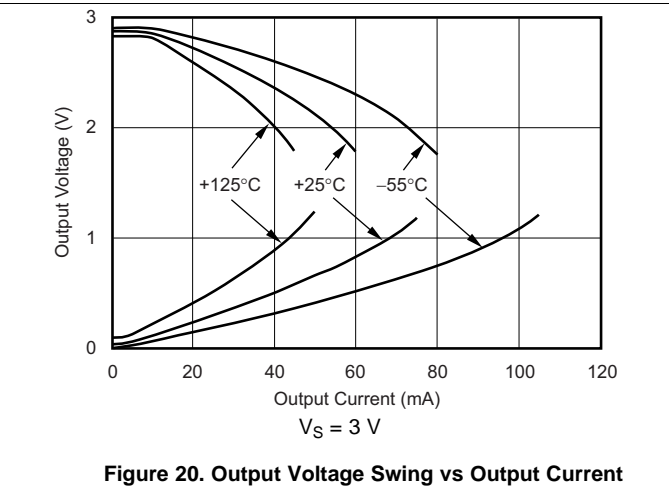
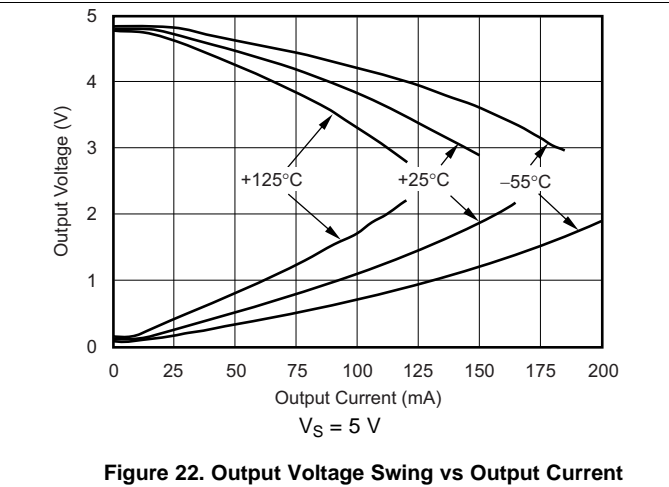
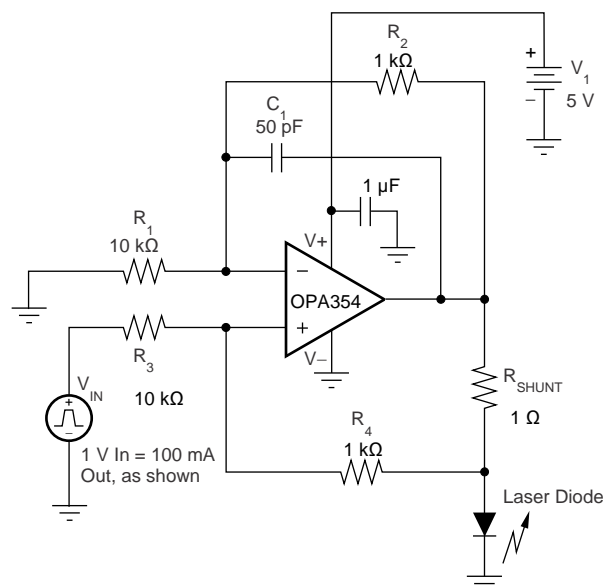
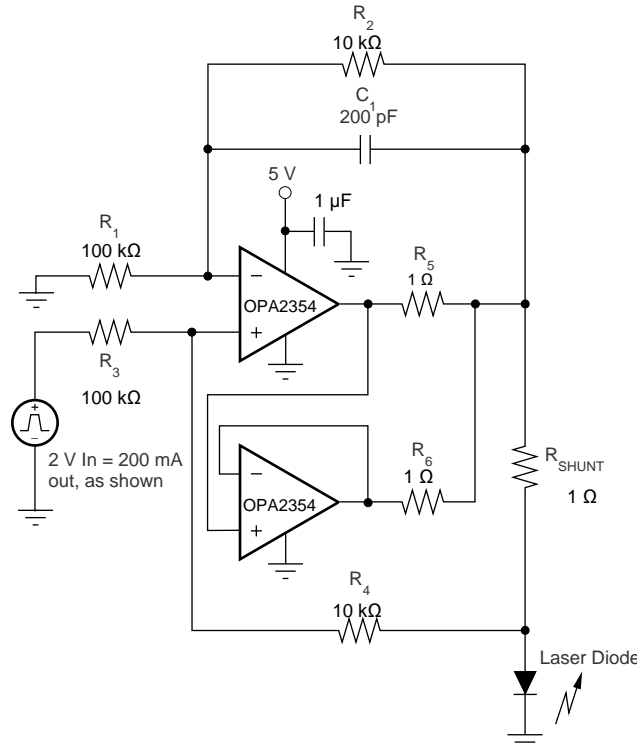

Figure 20. Output Voltage Swing vs Output Current
Figure 22. Output Voltage Swing vs Output Current
Figure 30. Laser Diode Driver
Figure 31. Parallel Operation
(1) See typical characteristic curves, *Output Voltage Swing vs Output Current* (Figure 20 and Figure 22).
(2) Specified by design.
A class AB output stage with common-source transistors achieves rail-to-rail output. For high-impedance loads ( $> 200 \Omega$ ), the output voltage swing is typically 100 mV from the supply rails. With 10- $\Omega$  loads, a useful output swing is achieved while maintaining high open-loop gain. See the typical characteristic curves, *Output Voltage Swing vs Output Current* (Figure 20 and Figure 22).
The OPAX354 output stage supplies a continuous output current of  $\pm 100$  mA and yet provide approximately 2.7 V of output swing on a 5-V supply, as shown in Figure 30. For maximum reliability, TI does not recommend running a continuous DC current in excess of  $\pm 100$  mA. See the typical characteristic curves, *Output Voltage Swing vs Output Current* (Figure 20 and Figure 22). For supplying continuous output currents greater than  $\pm 100$  mA, the OPAX354 may be operated in parallel, as shown in Figure 31.